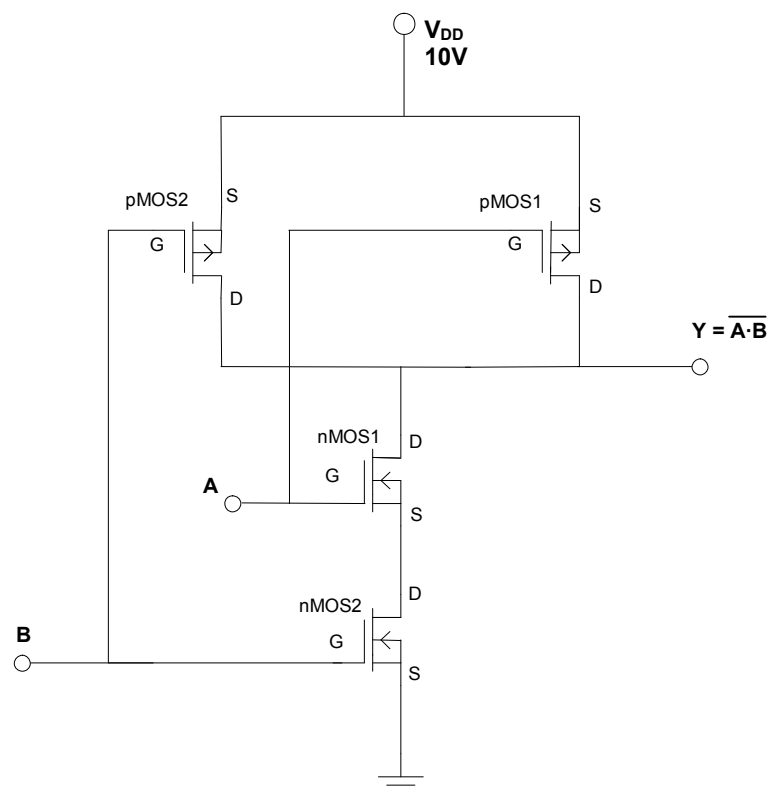

Figure 12.5: CMOS NAND Gate
7. Connect the circuit for a 2-input CMOS NAND gate shown in Figure 12.5. Verify the correct operation; Use DIO 0 and 1 as the inputs (located on the right side of the workstation). Connect the output signal to LED 0 (located on the right side of the workstation).